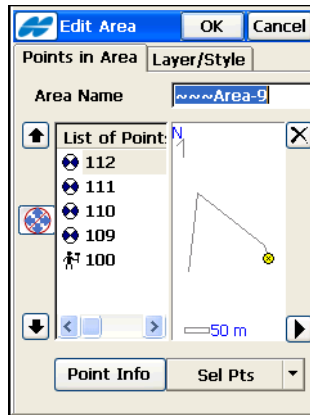

Figure 6-37. Edit Points in Area
- **Edit** – opens the applicable *Edit Area* screen (Figure 6-37 on page 6-32).
On the *Edit Area* screen (Figure 6-37 on page 6-32), you can edit the name, the points, and the layer of the selected area.
The *Points in Area* tab displays a list of existing points (*Area Name*) in the selected Area on the left side of the screen (Figure 6-37), and the general view of the area lines on the right side.